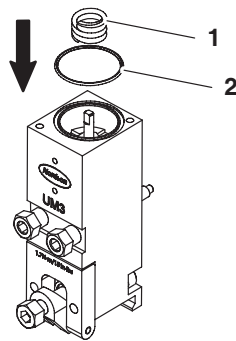

Figure 20 Installing a new piston spring and air cap O-ring
7. See Figure 20. Insert a new piston spring (1) in the bore in the cartridge assembly.